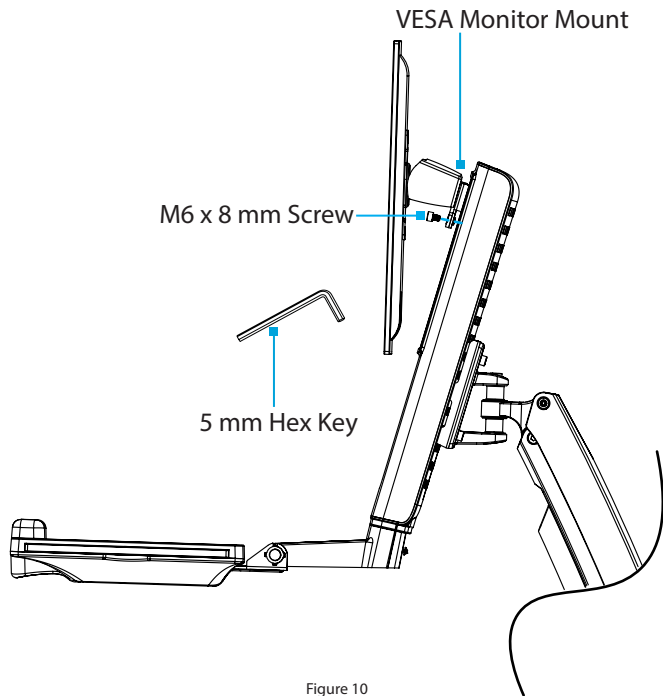

Figure 10
2. Insert the **M6 x 8 mm Screw** through the **Mounting Tab**, located on back of the **VESA Monitor Mount** and into the **Plate**, located on the **Column** and tighten, using the **5 mm Hex Key**. (Figure 10)